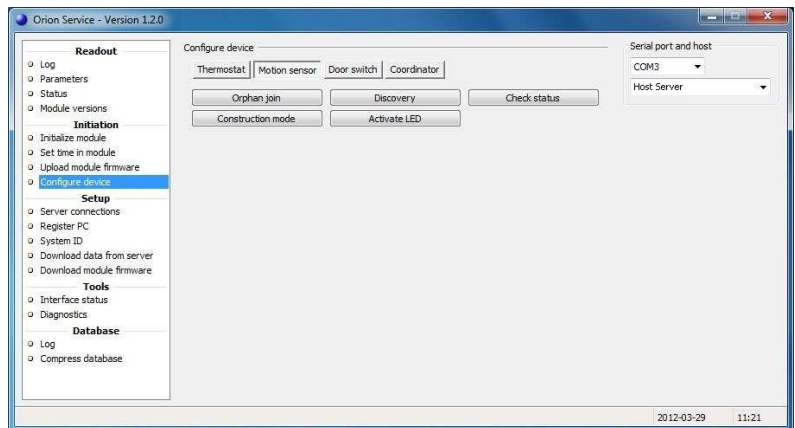

Figure 25
4. Choose the **Motion sensor** tab in the **Configure device** section of Orion Service. Click the **Discovery** button; see Figure 25.